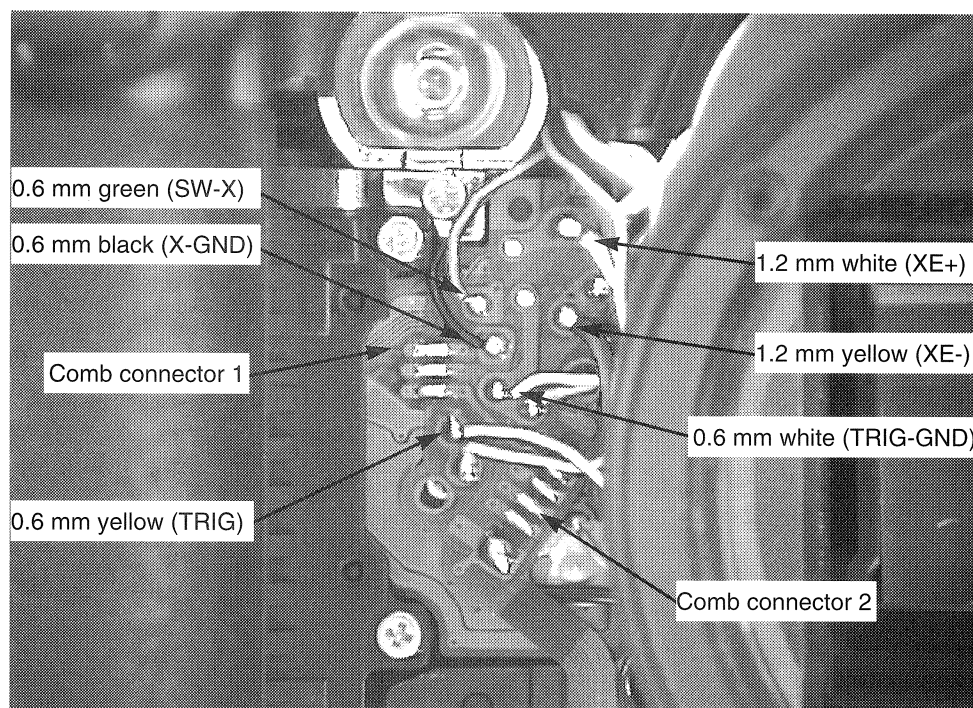

Fig. 3-12 Lead Wiring and Main Capacitor Bleeding
- Always drain the main flash capacitor as soon as front cover (3) is removed before proceeding. See Fig. 3-12.
3. Disconnect the six leads on the top flex (four from flash board and two from shutter board). (Fig. 3-12)
4. Remove the two comb connectors from the flash pop-up switch. (Fig. 3-12)